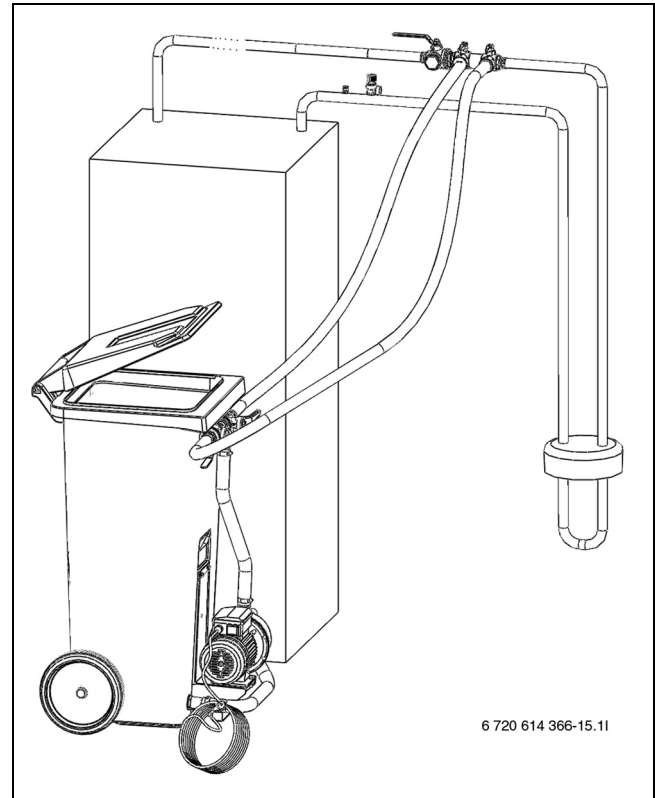

Fig. 22 Filling with filling station
- ▶ Connect two hoses from the filling station to the filling unit (→ Figure 22).